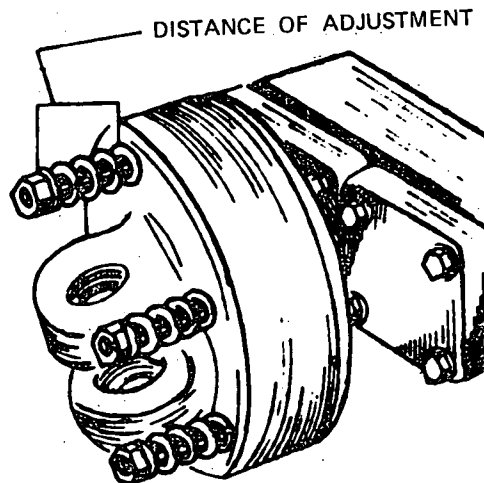

Fig. 4
- d) Check the safety clutch (Fig. 4).